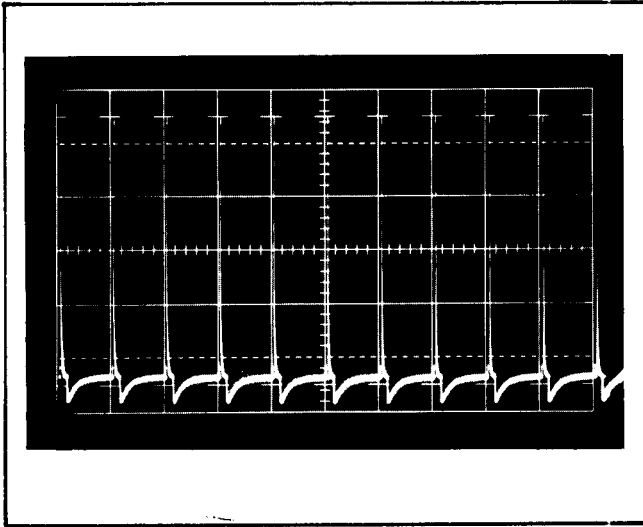

Fig. 5-6. Typical Test Oscilloscope display for checking REAL TIME/DIV switch.
- b. Set the Test Oscilloscope Time/cm switch and the Type 283 REAL TIME/DIV switch according to Table 5-1. Check for 1 pulse per graticule division at each position of the REAL TIME/DIV switch, see Fig. 5-6.